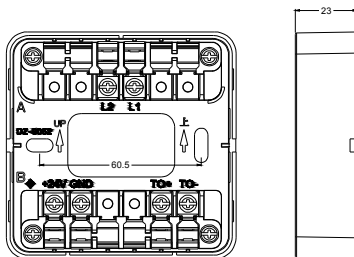

Fig.2 Base of the A9052T Module (unit: mm)
- 1) Terminal description for the A9052T module (see Fig.2)
- 4) Use two M4 screws to fix the module base via the two screw holes shown in Fig.2, then insert the main body of the A9052T module into the module base and make sure they contact each other properly.